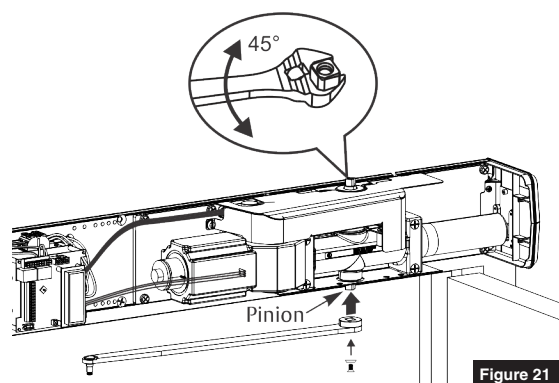

Figure 21
2. Using an adjustable wrench, rotate top pinion 45 degrees toward door hinge. You will feel resistance from spring. (Figure 21)
3. While holding pinion at 45 degrees, slide arm on bottom pinion parallel to frame as shown. (Figure 21)
4. Secure arm to pinion with 1/4-20 x 1/2" screw and countersunk patch washer. (Figure 21)